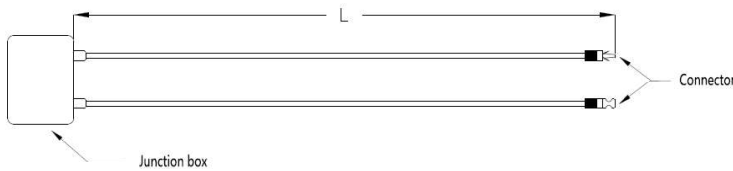

Figure 10: Junction box
- The cable of the junction box is defined as L, as showed below in Figure 10. For Jinko standard module, L is 900/1200mm; and for customized module, L can be based on your condition. Please take the cable length into consideration before designing the wiring layout.